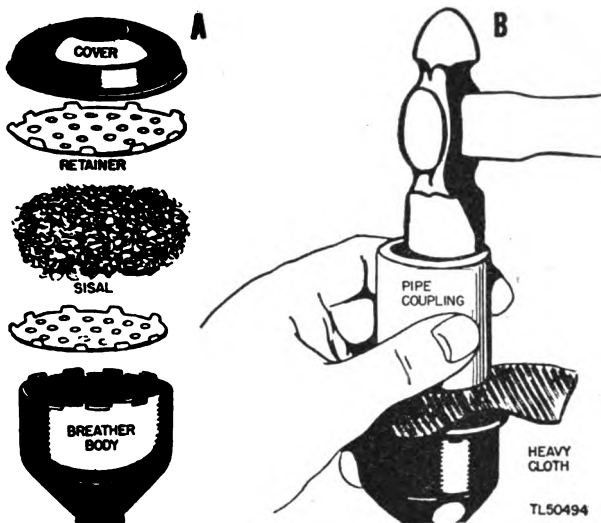

Figure 75. Assembling breather parts.
(3) Wash the retainers with Solvent, dry cleaning (Federal Specification P-S-661a).
c. **REASSEMBLY** (fig. 75). (1) Replace the parts in the order illustrated in figure 75 (A).
(2) Place a piece of cloth over the cover and, by using a 1½-inch pipe coupling placed over the cloth, force the cover into place with a hammer. (See fig. 75 (B).) Do not hammer directly on the cover as this is liable to dent it and prevent its fitting properly.